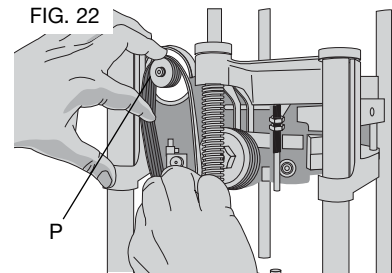

FIG. 23
6. Guide the belt between the lower pulley and the height adjustment screw (Q), as shown in Figure 23.